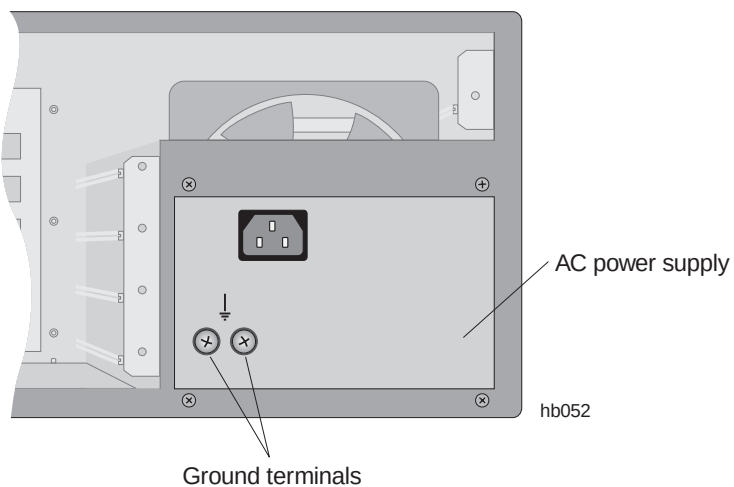

Figure 3-8 Ground terminals on ac power supply
1. Use a 2-hole lug to connect a No. 16 AWG ground wire to the ground terminals on the front of the power supply. See figure 3-8.